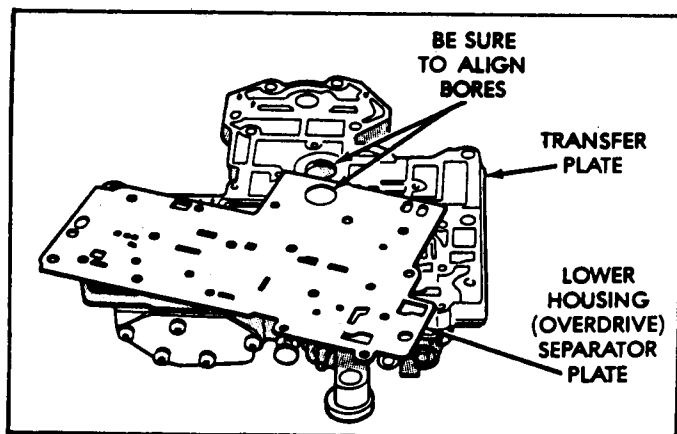

Figure 99
12. Now very carefully grasp both halves at once and turn the entire assembly over and lay it as shown in Figure 99.
13. Position the lower housing spacer plate on transfer plate and align, as shown in Figure 99.